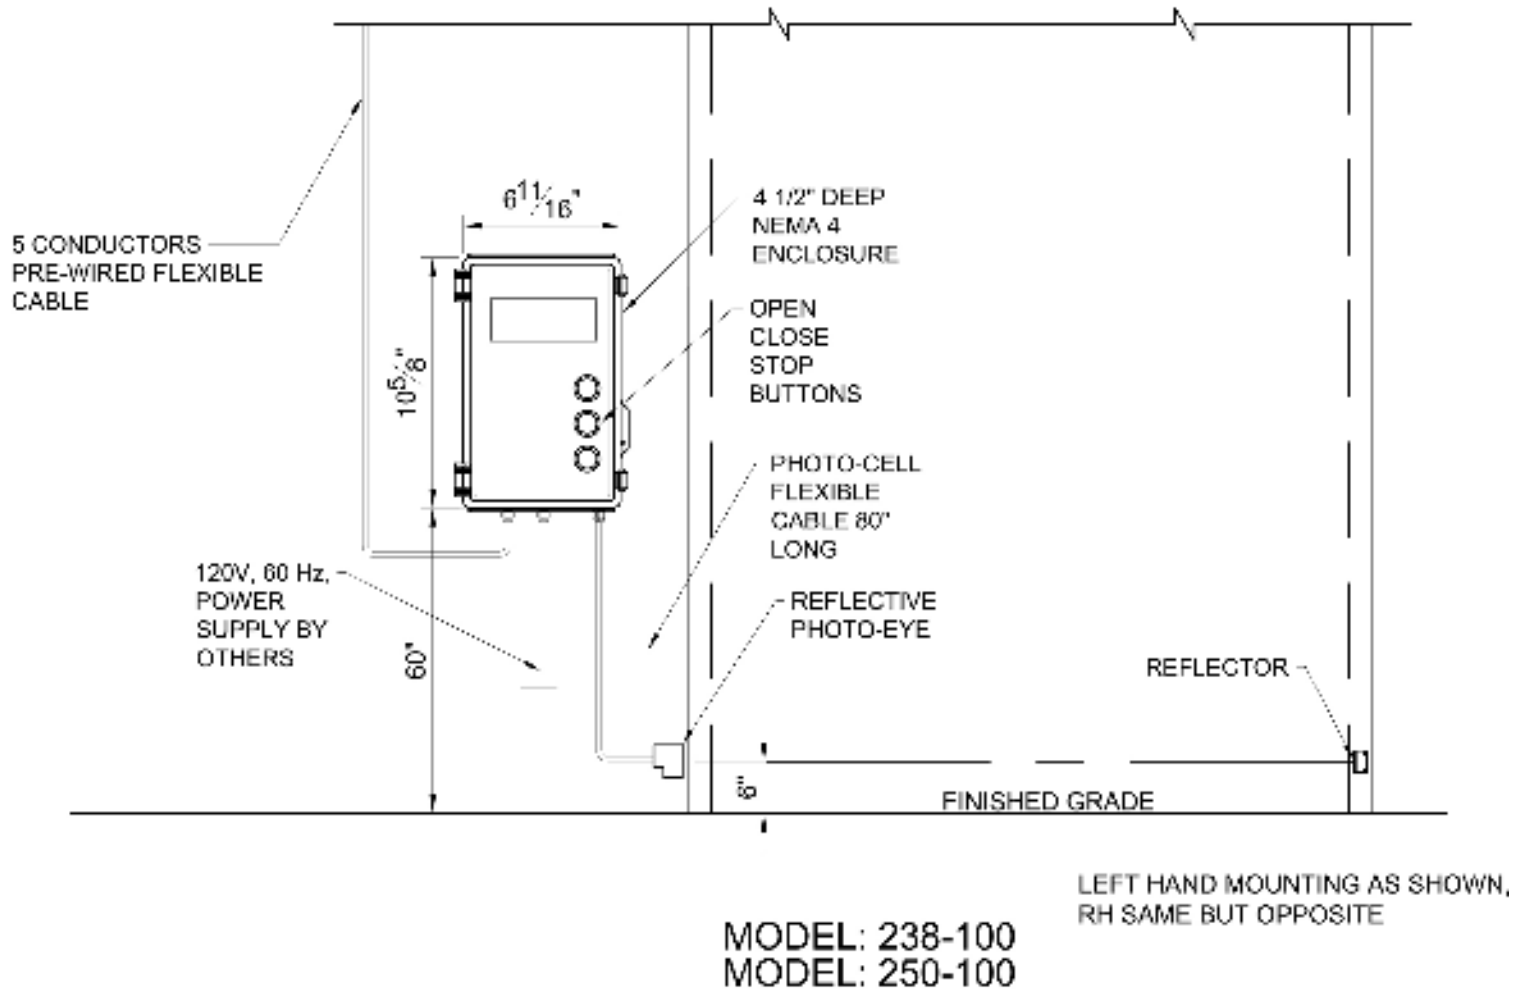

FIGURE: 8
The control panel should be securely mounted at or around eye level (minimum 5 ft. from floor) on the same side as the operator/junction box. Ensure that the control panel is mounted far enough away from the door as to avoid user contact with the door while in operation, but close enough that the user has clear view of the door at all times. Four (4) control mounting brackets are provided to facilitate mounting. See Fig: 8
The included reflective photo-eye or optional thru-beam sensor should be mounted so that it scans area that spans the entire width of the door at a height of no more than 6 inches from the ground. The sensor (reflective photo-eye) or receiver (thru-beam) should be mounted on the operator side (as it will be wired into the control panel), while the reflector or transmitter should be mounted on the opposite side of the door, facing the sensor/receiver so that its center meets the beam. Use the included mounting bracket(s) to secure to either the door tracks or the wall. Refer to the specific mounting details provided with the sensor. For final alignment of the sensor, apply power to the sensor (after completing WIRING – see page 10/11 for additional wiring info). Once properly aligned the indicator will light up in confirmation. See Fig: 8 for mounting reference.